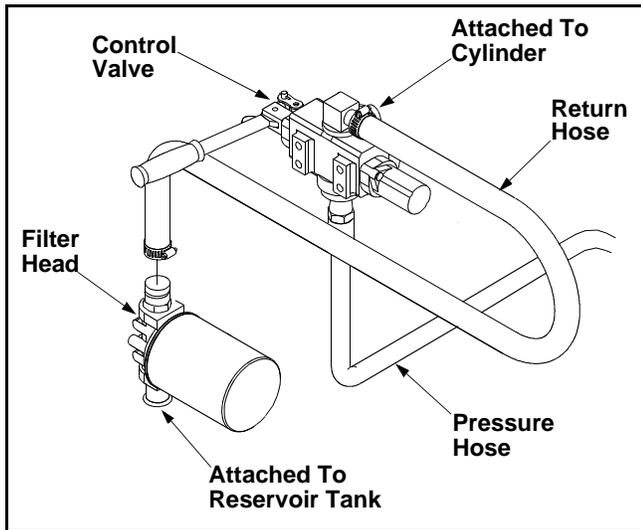

Figure 8
- The return hose is attached to the top of the control valve. Loosen the hose clamp on the free end of the hose. Cut the securing strap. Remove any protective insert from the end of the hose. See Figure 8.